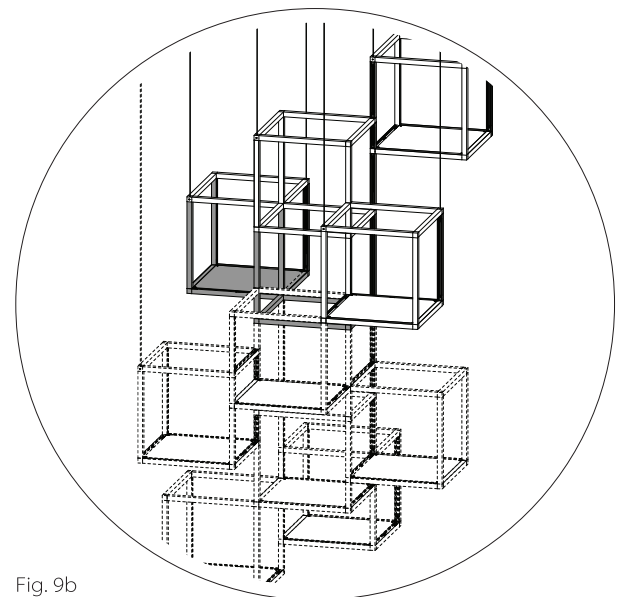

Fig. 9b
- 7c. Section as part of whole assembly shown in Fig. 9b.